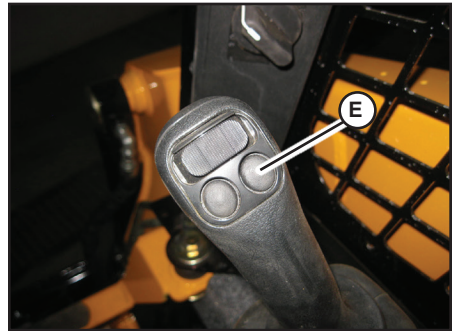

Fig. 16 - Hydraglide™ Control Button
Press button (E, Fig. 16) to activate Hydraglide™ ride control. Press button (E) again to deactivate.